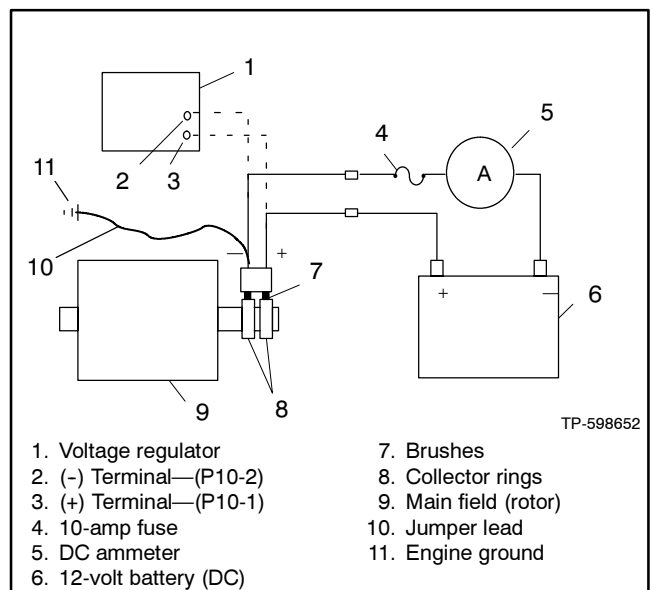

Figure 7-2 Separate Excitation Connections
3. Connect a separate excitation circuit as shown in Figure 7-2. Connect an ammeter and a 10-amp fuse in series with F1. Note and record the ammeter reading.